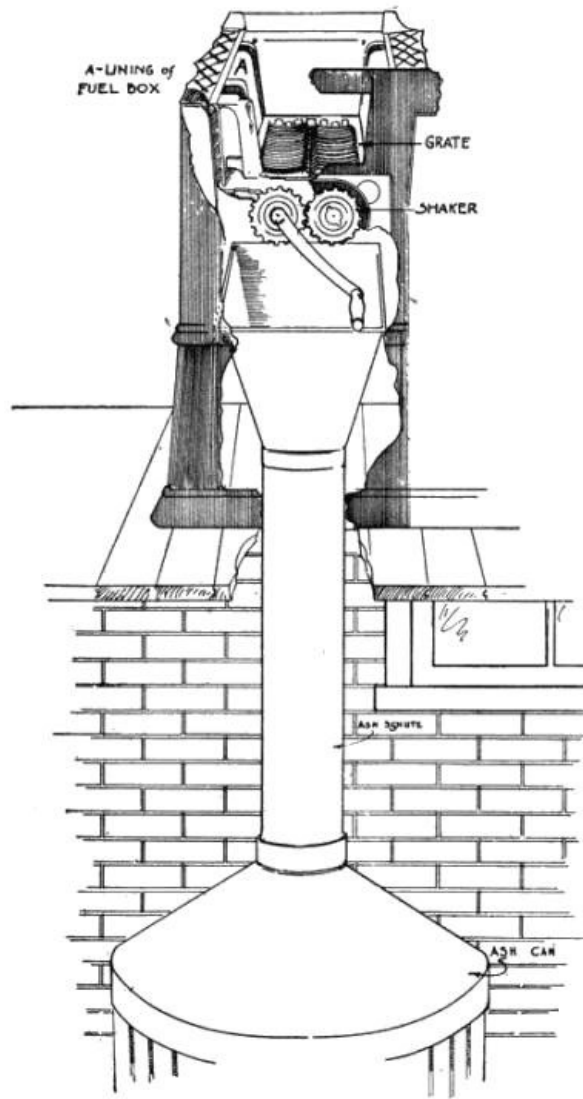

FIG. 3. Ash chute.
8. Ash Chutes. In some modern houses, there are ash chutes which carry the ashes directly from the kitchen stove to a receptacle in the basement (Fig. 3). These have to be installed with care. If there is a draft of air which cannot be regulated from the basement up thru the fire box, the fire will burn too fast. There should be a damper to regulate drafts here. An ash chute saves much dirt in the kitchen.